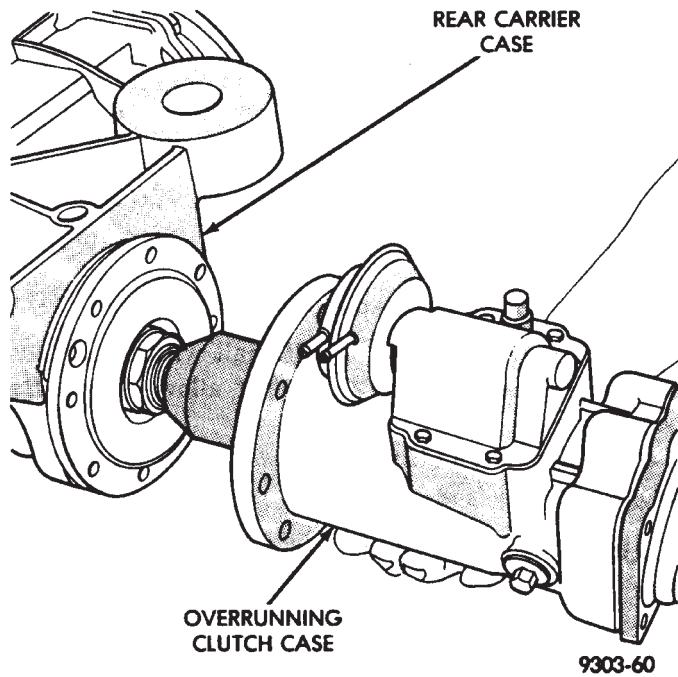

Fig. 7 Separate Rear Carrier Case from Overrunning Clutch Case
- (4) Separate rear carrier case from overrunning clutch case (Fig. 7).